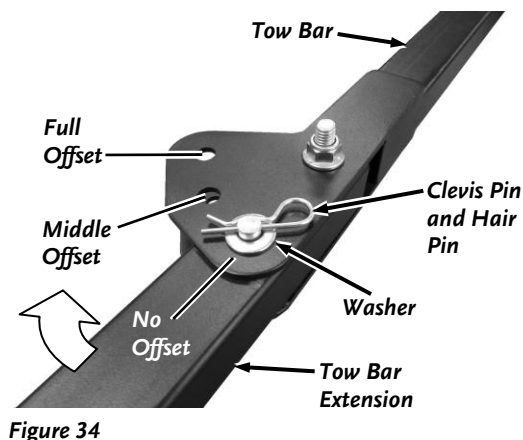

Figure 34
1. Remove the Hair Pin, Washer, and Clevis Pin that secures the Tow Bar Extension to the Tow Bar (**Figure 34**).